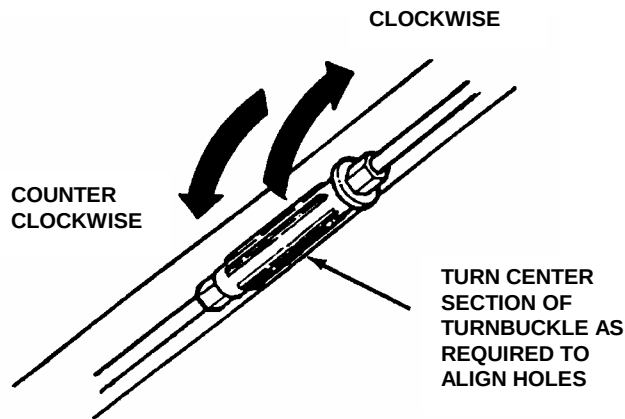

FIGURE 4.6
3. Rotate turnbuckle (Located in the middle of the wheel drive control cable) clockwise or counter clockwise to align holes. See Figure 4.6.